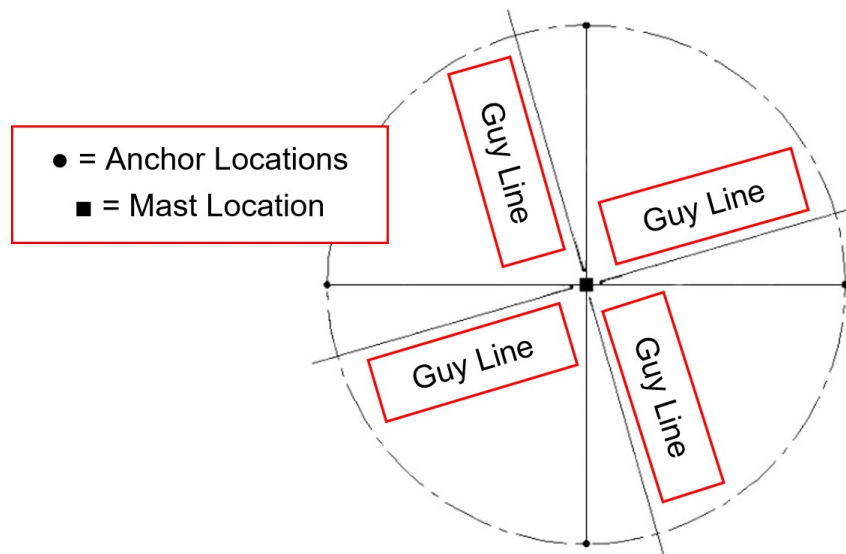

Figure 6-2 Sample of Laying Out Guy Lines (Single Level Guying Shown)
5. Prior to extending the mast, The Will-Burt Company recommends laying out any guy lines so they do not become tangled during extension (Figure 6-2).